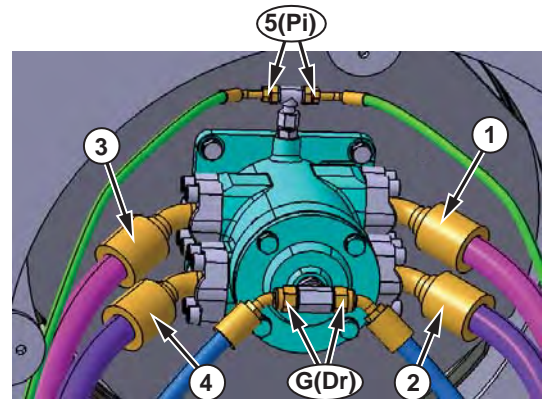

Figure 10 Hub of Center Joint EX1501819
13. Remove hoses and adapters (Figure 10) from center joint.